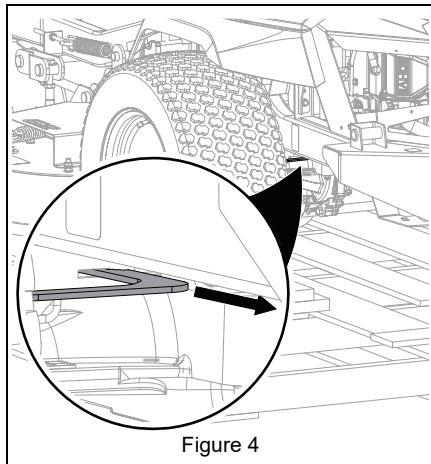

Figure 4
7. Pull transaxle bypass levers out to disengage transaxles. See Figure 4.